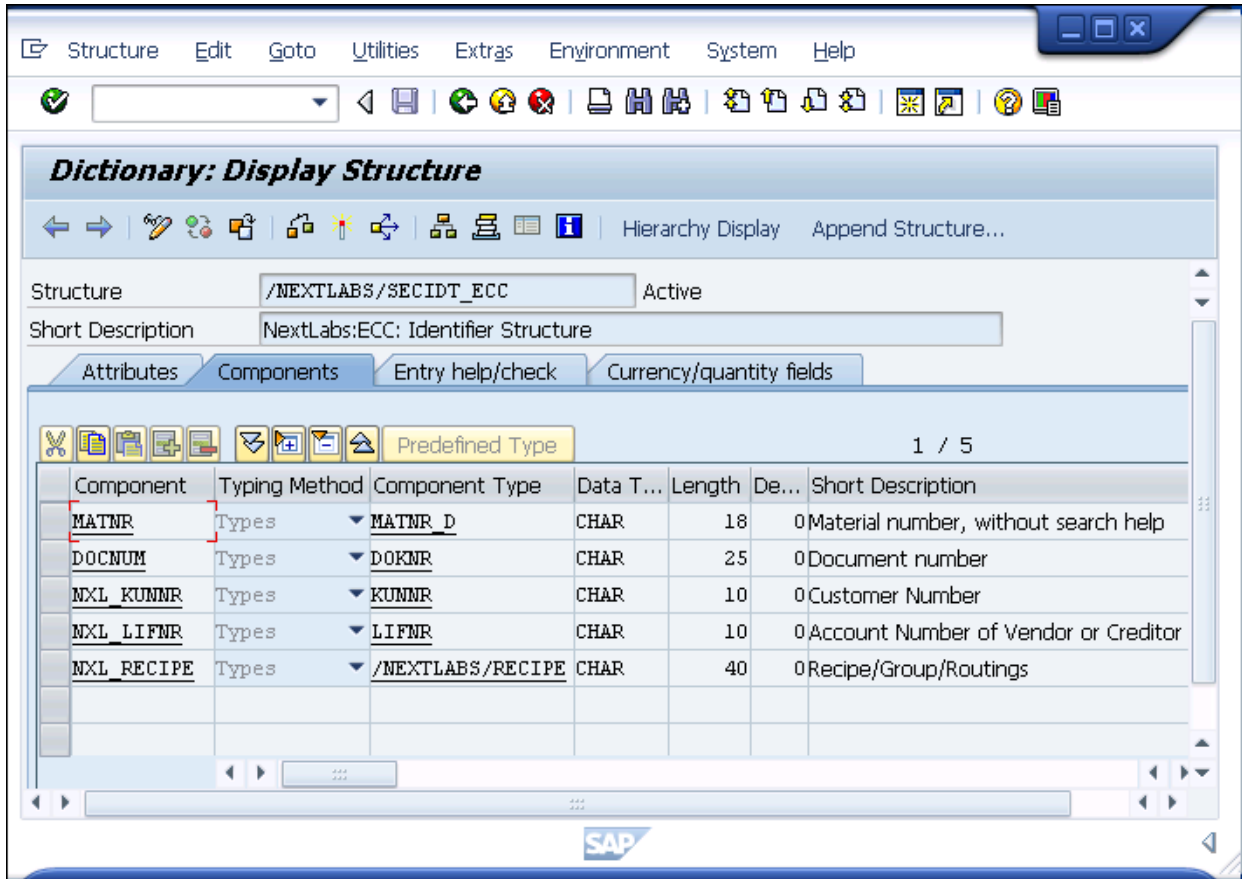
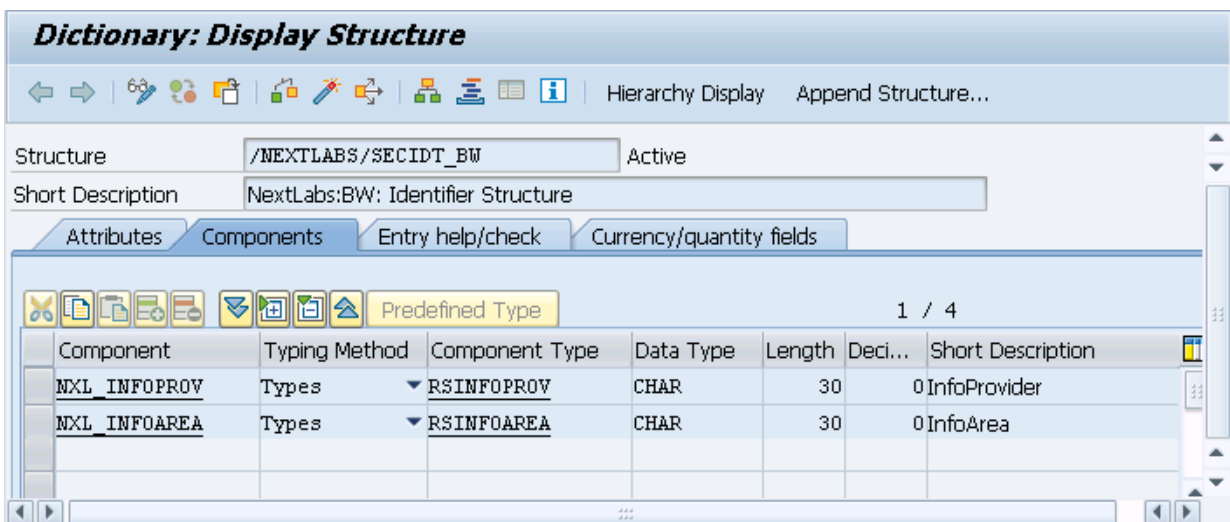

Figure 8-2: Default identifiers in /NEXTLABS/SECIDT\_ECC
Figure 8-3: Default identifiers in /NEXTLABS/SECIDT\_BW
- 2 In the **Data Type** field, enter the structure name /NEXTLABS/SECIDT\_ECC, /NEXTLABS/ SECIDT\_CFX, or /NEXTLABS/SECIDT\_BW, and click **Display**. The identifiers that are pre-configured display. Figure 8-2 and Figure 8-3 show examples of default identifiers in SECIDT\_ECC and SECIDT\_BW.